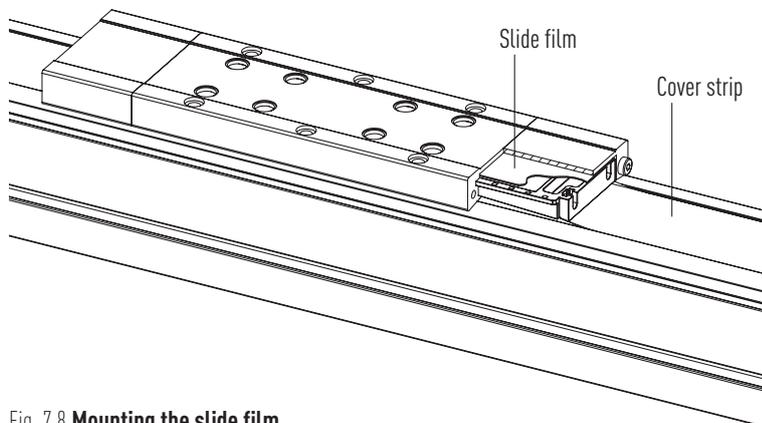

Fig. 7.8 Mounting the slide film
- ▶ Push the slide film through the upper opening in the cover strip deflection as shown in Fig. 7.8 and align it centrally in the longitudinal direction.